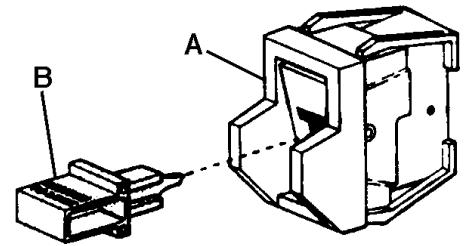

FIGURE 21
Your Meat Bandsaw is equipped with a safety toggle switch (A) Fig.21. To turn the machine on, place the switch to "On", to turn it off, place the switch to "Off". To prevent unauthorized use, this switch has a safety key (B) which, when removed, allows the switch to be locked in the "off" position. To lock the switch in the "off" position, push switch to "off" and pull out the switch key.